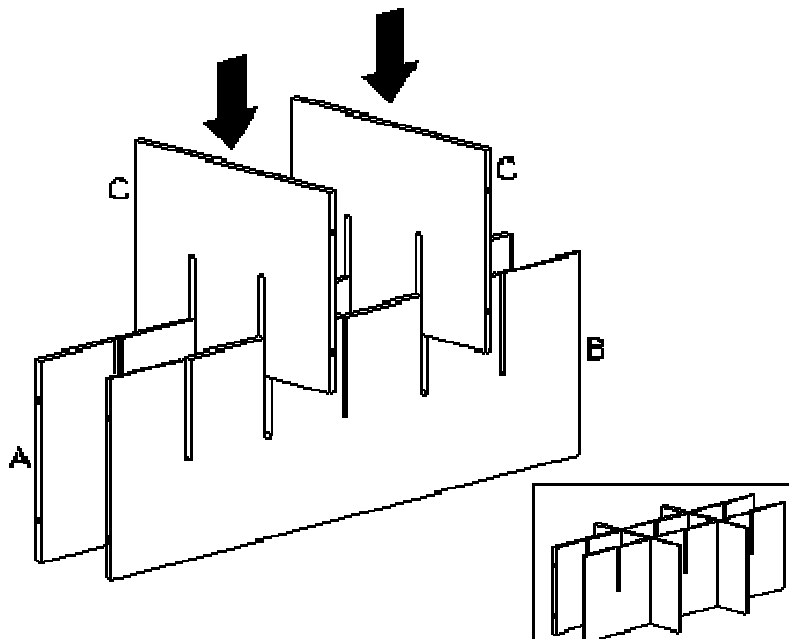

Figure 1
Step 2 Attach the big divider Panels(C) to the Shelf Panels(A,B) as shown in Figure 1.